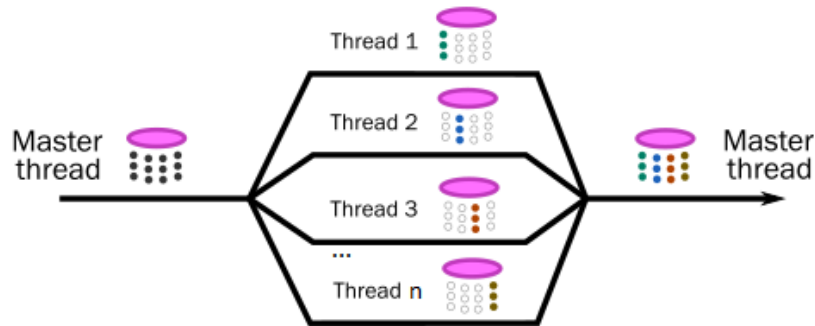

Figure 29. Multithreading process.
- **Number of CPU:** SpreadDEM uses a multithreading method to run a simulation. A primary thread is divided into a specified number of sub-threads, allocating threads to different CPUs (Figure 29). The number of dedicated CPUs while running in parallel must not exceed the total number of available CPUs in the system. It is recommended to leave at least one cpu free for other system processes.